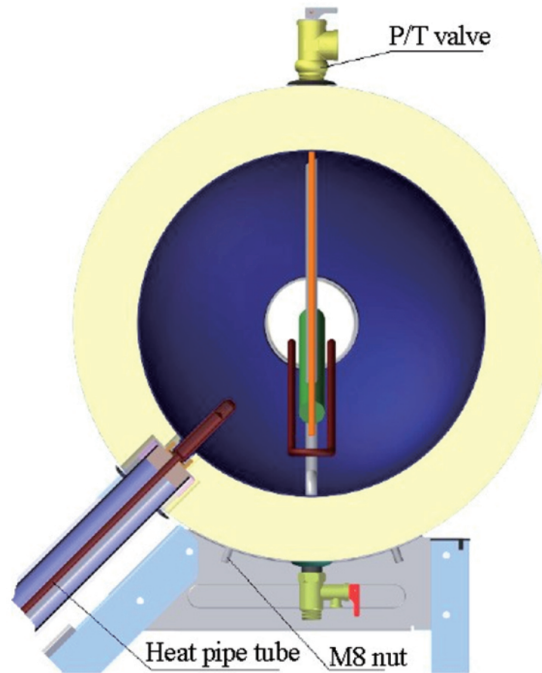

Fig.3
A. Set the water tank symmetrically on the supporting frame and secure with 4 sets of M8 nuts, please see (Fig 3)